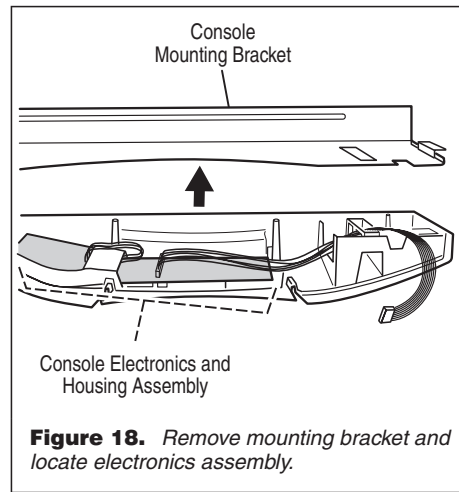

Figure 18. Remove mounting bracket and locate electronics assembly.
- Remove the screws that fasten the console mounting bracket onto the assembly. Lift up and remove the bracket to locate the electronics assembly. See figure 18.